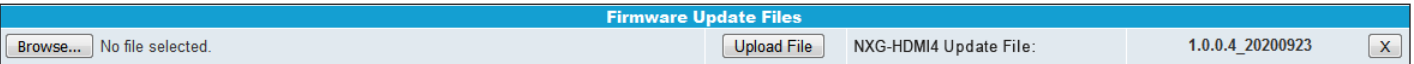

Figure 5b - File when uploaded
- 2 Under the “**Firmware Update Files**” section, the user can use **Browse...** and **Upload File** to select and send the module update file(s) into the NXG Platform. See a view of the file when uploaded to the platform as shown below on Figure 5b.
When firmware updates are complete, the user can remove the loaded file by clicking the **X** button shown on Figure 5b next to the “Upload File” button under “Firmware Update Files”.